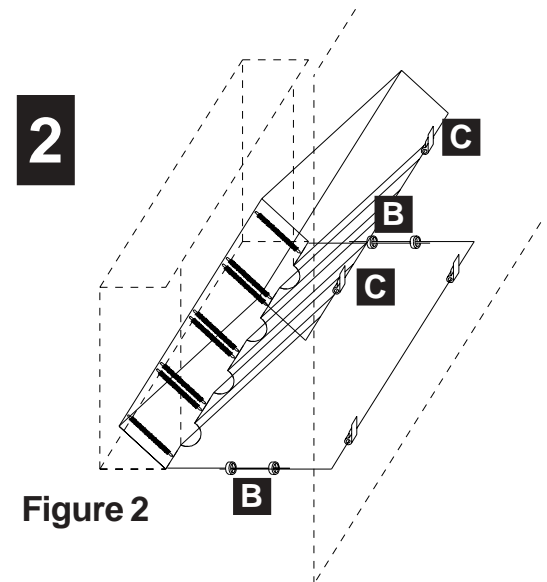

Figure 2
5. Pivot the dispensing rack to the desired mounting angle and retighten the two set screws on each side. (See Item B in Figure 2)
6. Secure the top portion of the dispensing rack to the mounting surface with the supplied mounting brackets. (See Item C in Figure 2)